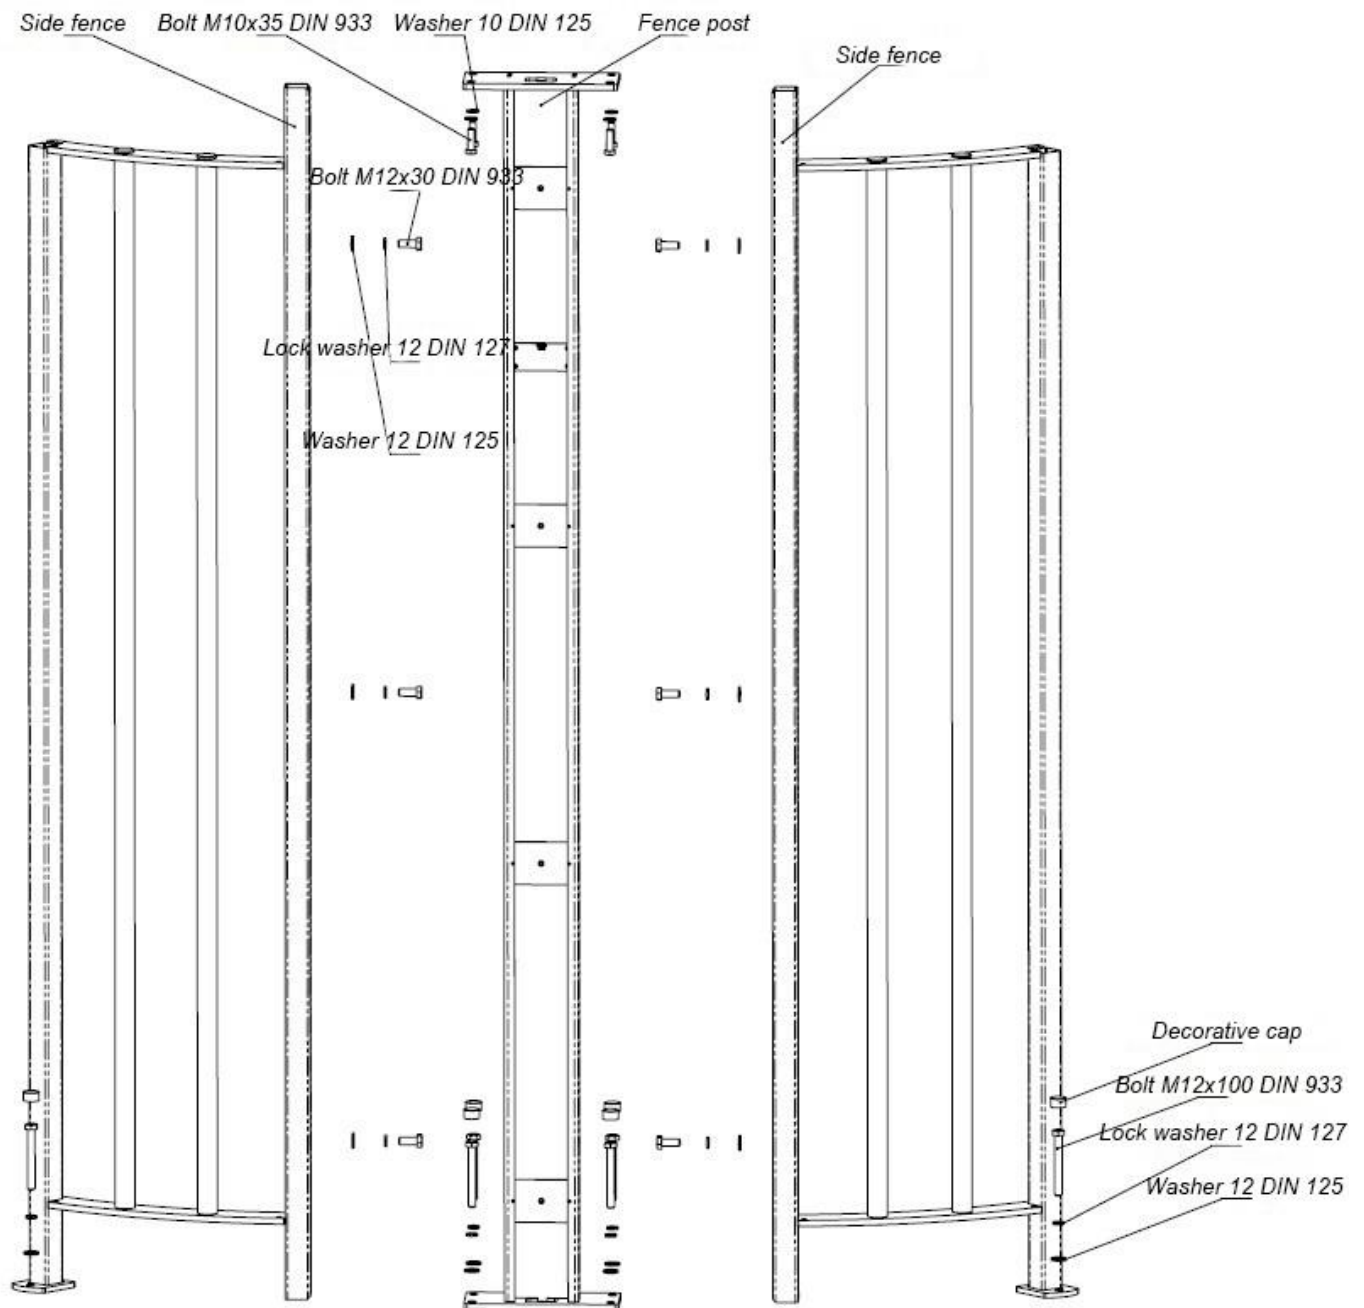

Figure 9 – Installation of fixed fencing elements
4.2.9 Figure 9 – install and fasten the turnstile fencing fixed elements using the anchors, screwing them into appropriate holes using the 19 mm wrench. Install plastic caps on the heads of fastening bolts.